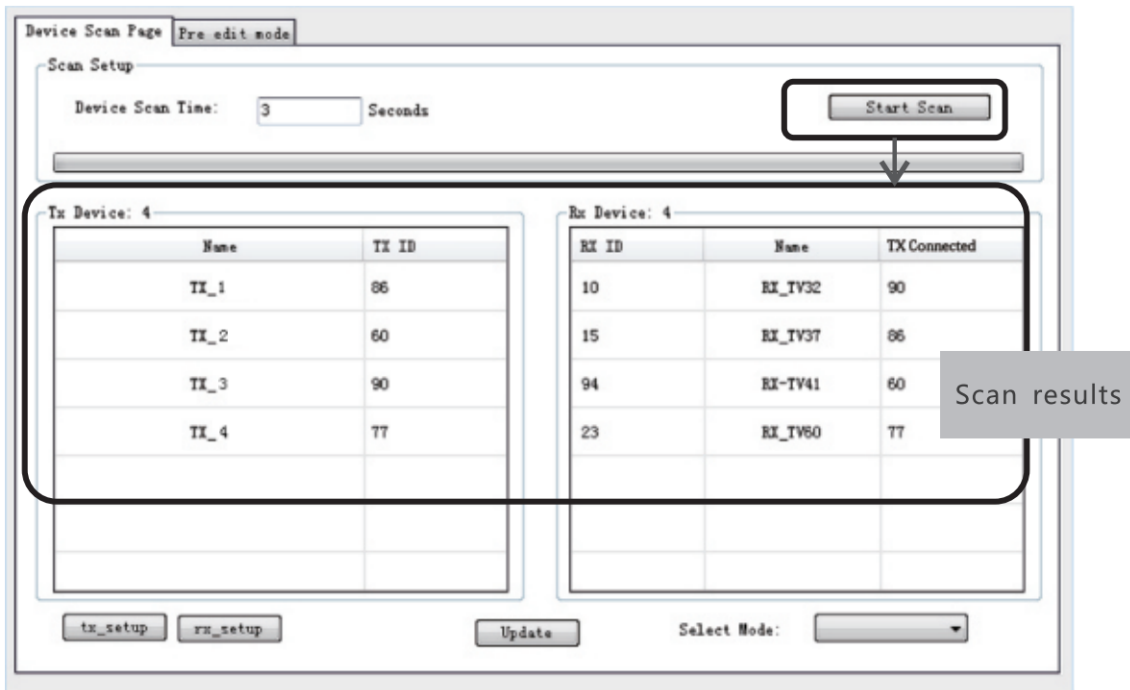

Figure 3
4.2 Firstly, connect the router to the IGMP switch. Then, connect mobile phone and the router with each other, open the downloaded APP "Matrix Control Lite" will enter to the interface as figure 3, TX ID, RX ID, TX connected number can be re-set by this APP, also can edit device name for marking.